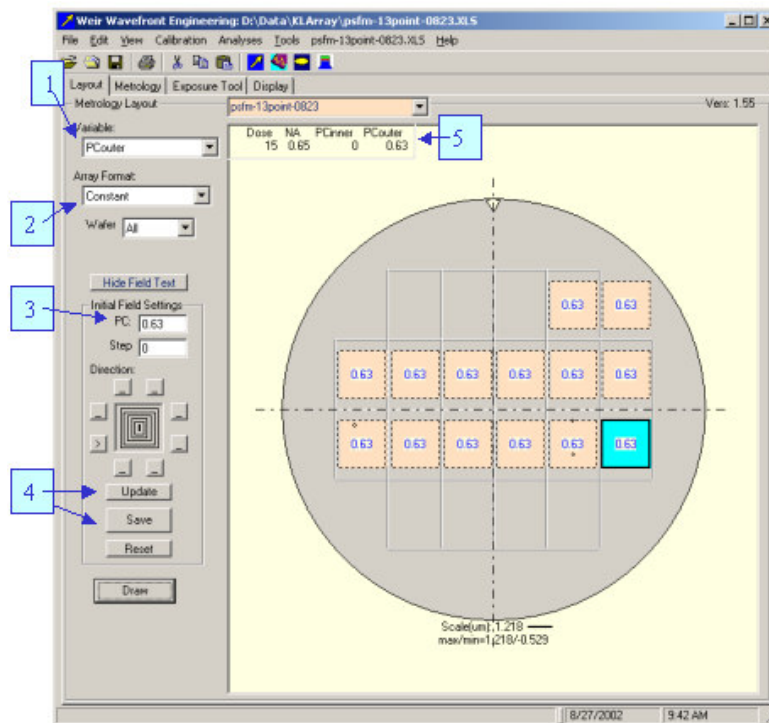

Figure WL2: Specifying constant Partial Coherence in the layout.
Now that we have set up the focus, we desire to specify a constant Sigma or Partial Coherence (PC) for all die in the data set. Note that if PC varies from wafer to wafer, you need to first select the appropriate wafer ID from the dropdown list. Refer to Figure WL2 for this exercise.